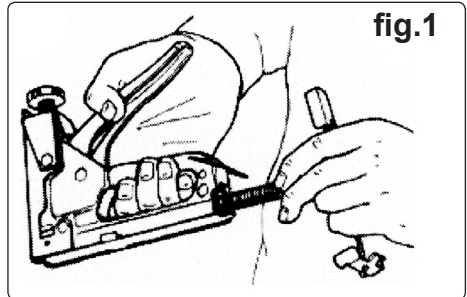
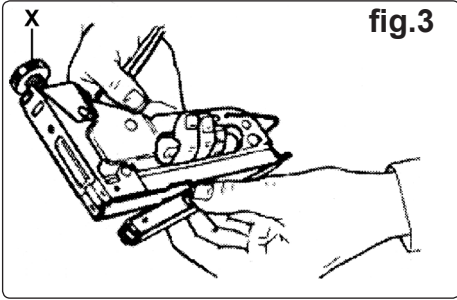
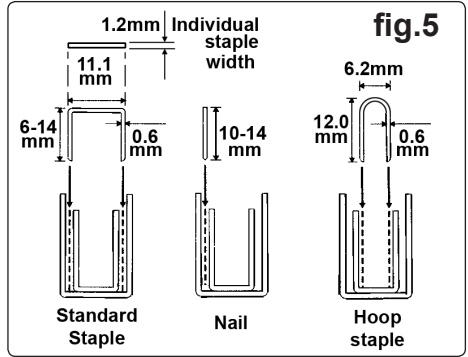

fig.1
fig.3
fig.5
4.1 Hold the stapler in one hand and point away from your body. Push in and down on the stapler feed bar and withdraw it from the stapler. Insert new staples (fig.1) or nails into the guidance track. See (fig.5) for staple placement within the track. Reinsert the feed bar and hook upwards to retain it.
4.3 How to clear blockages. Remove the feed bar (fig.1) and any loose staples remaining in the guidance track. Using the tabs on the sole plate, pull the sole plate back and downwards to hinge it away from the main body. Clear any damaged staples away from the staple exit path. Hinge up the sole plate. Pull back on the tabs and move it back into position within the main body. (fig.3)